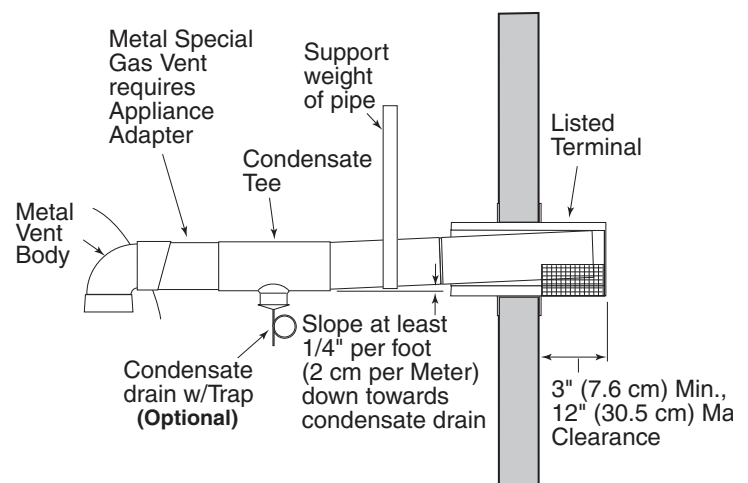

Figure 18.
- at least 3" and at most 12" out from the wall (see Figure 18), following the vent manufacturer's instructions